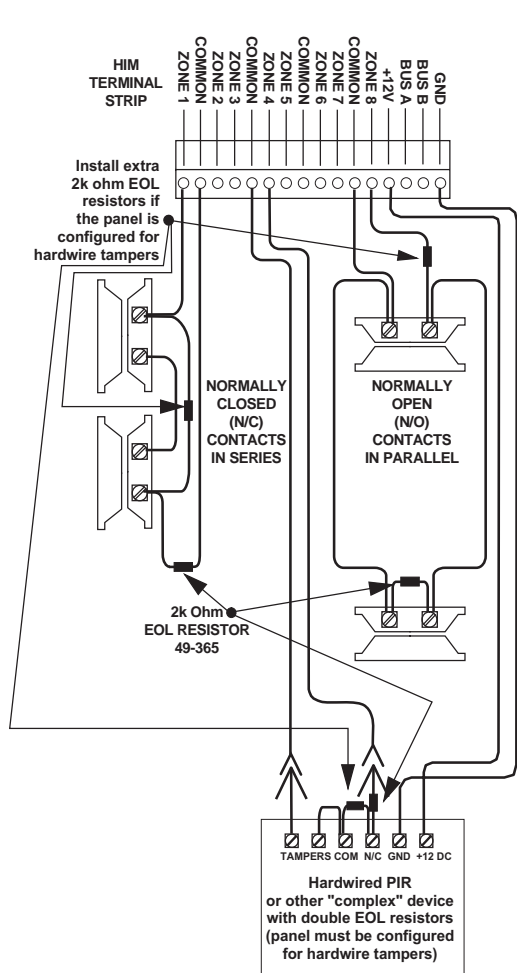

Figure 7. Connecting NC and NO Circuits to the HIM
Both normally open and normally closed sensors can be wired to a HIM. The HIM monitors all zones and alerts the panel if there is an open/short circuit, using end-of-line (EOL) resistors on each loop input. To enable hardwire tamper protection, install extra EOL resistors (as shown in Figure 7) and turn on the panel Hardwire Tamper feature.
1. See Figure 7 for an example of how to connect up to eight NC or NO circuits to the HIM.